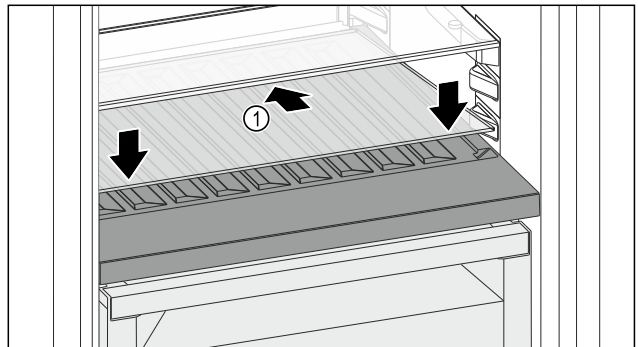

Fig. 146
- ▶ Place the glass shelf Fig. 146 (1) at an angle, sloping it downwards and backwards.
- ▶ Lower the glass shelf Fig. 146 (1) at the front.